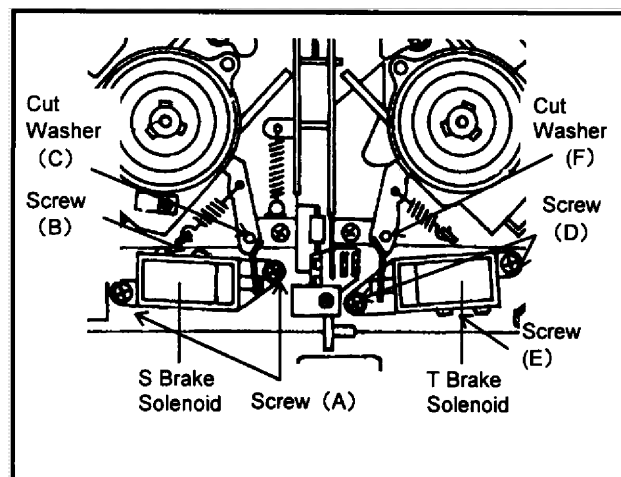

Fig.M14
3. Unscrew the 2 screws(A)to remove the Supply Brake Solenoid and unscrew the screw(B)to remove the Solenoid base as shown in Figure M14.
4. Remove the cut washer (C)to remove the Supply Brake Arm.
5. Unscrew the 2 screws(D)to remove the Take Up Brake Solenoid and unscrew the screw(E)to remove the Solenoid base as shown in Figure M14.